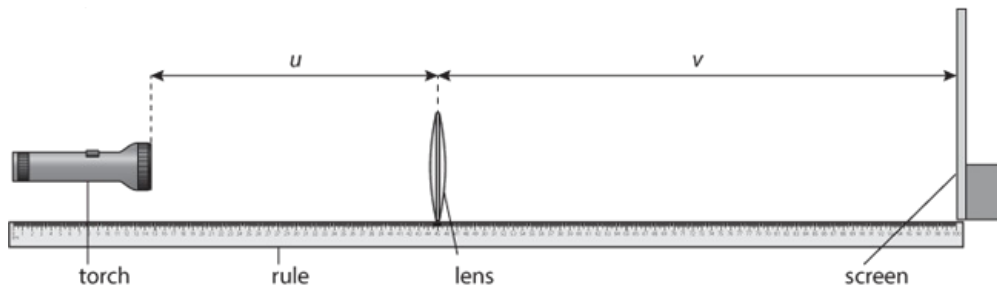

Figure 8.9: Torch, lens, screen and metre rule.
- 3 Stand the white screen on the bench with the torch shining on it from a distance of approximately 90 cm. Move the lens along between the torch and the screen until there is a sharp image of the torch LEDs on the screen. Measure the distance u between the torch and the lens and the distance v between the lens and the screen, as shown in Figure 8.9.